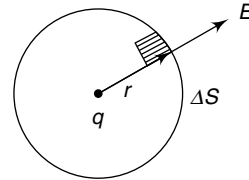

Fig. 1.13 (+q) charge is placed at the centre of a sphere (Ex. 1.6)
1.6 A charge q is placed at the centre of a sphere (Fig. 1.13). Taking the outward normal as positive, find the flux of the electric field through the surface of the sphere due to the enclosed charge.